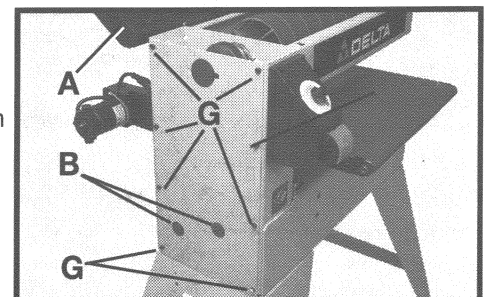

Fig. 25
2. Raise the top drum cover (A) Fig. 25.
3. Remove the two hole plugs (B) Fig. 25.
7. Replace the hole plugs (B) Fig. 25.